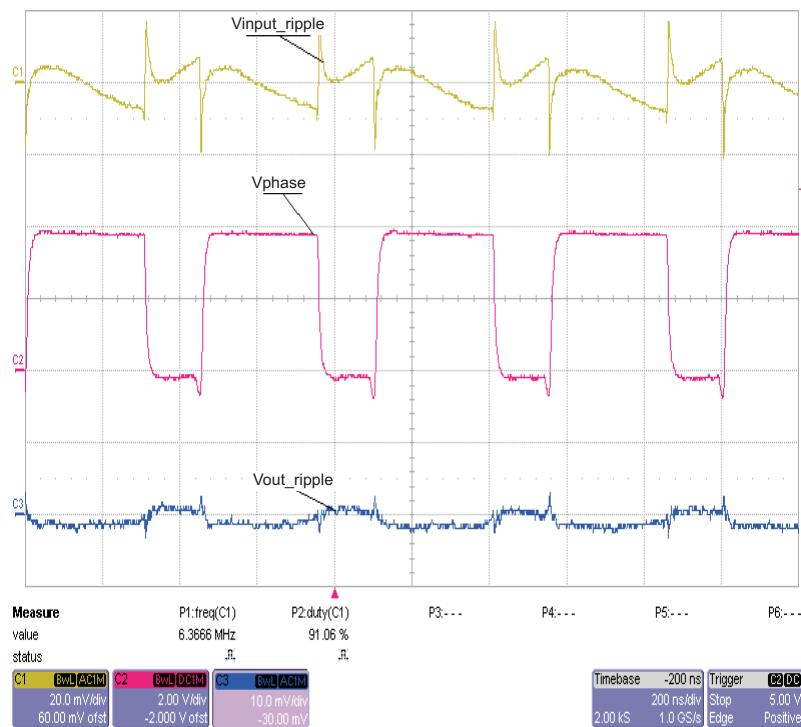

Figure 2. PWM Mode. Vin = 4 V, Vout = 2.5 V, Iout = 0.5 A. CCM Operation, Therefore PWM Mode CH1 = Input Ripple; CH2 = Phase; CH3 = Output Ripple
3. Look at CH2 and CH3, and verify that the duty cycle is near 67% and the output ripple is less than 10-mV ripple; see Figure 2 for typical waveforms. Note that the output inductance used on the test board used to take the photographs is a 2.2- μ H inductor and the one on the factory EVM is a 1- μ H inductor; therefore, the output ripple is approximately twice the amplitude shown. These waveforms were taken with high-frequency probes (meaning that the ground lead was very short (~1 cm)). This greatly reduces the high-frequency spikes that the ground loop on the probe picks up.